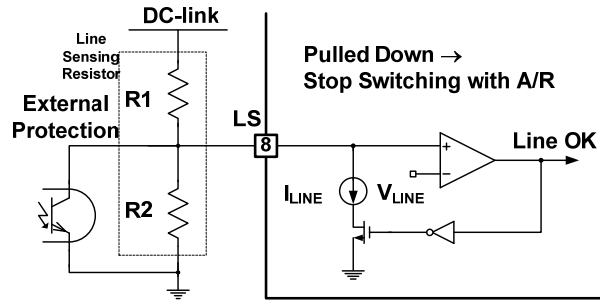

Figure 26. External Protection Circuits
7. Simple Remote-On/Off: The power stage can be shutdown with optional Auto-Restart Mode, as shown in Figure 26.